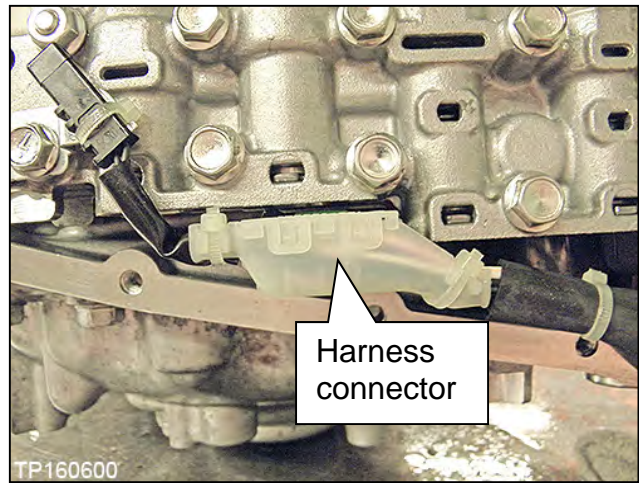

Figure 25
13. Connect the electrical harness connector (Figure 25).